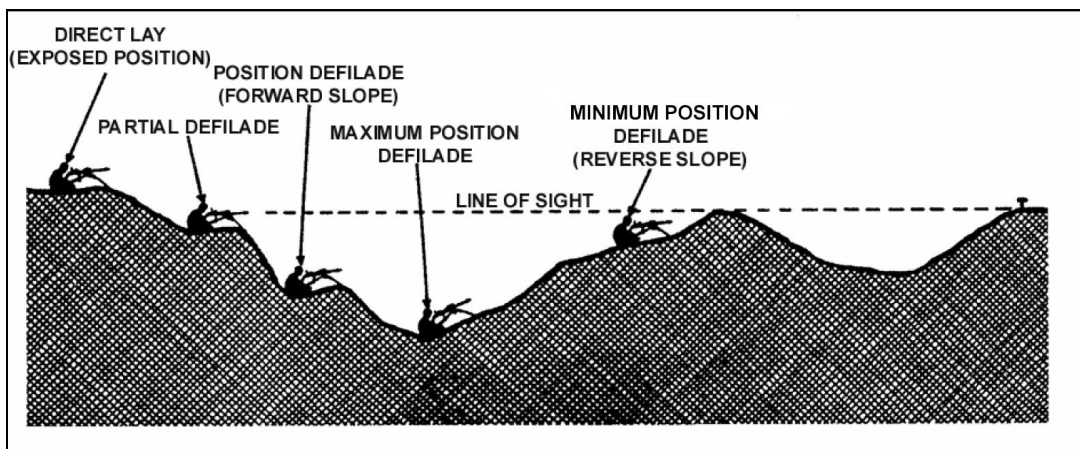

Figure 5-21. Defilade positions (and direct lay).
a. **Definition.** A MK 19 is in defilade position when the gun and its crew are hidden by a landmass such as the crest of a hill from enemy ground (Figure 5-21). The position can be on the reverse slope of a hill, on the forward slope of the next high ground to the rear of a hill, or in a small fold in the ground. A defilade firing position does not necessarily reduce the effectiveness of fire against a stationary enemy target or preclude fire over the heads of friendly troops. Defilade may also be useful in providing predetermined fire into an EA.